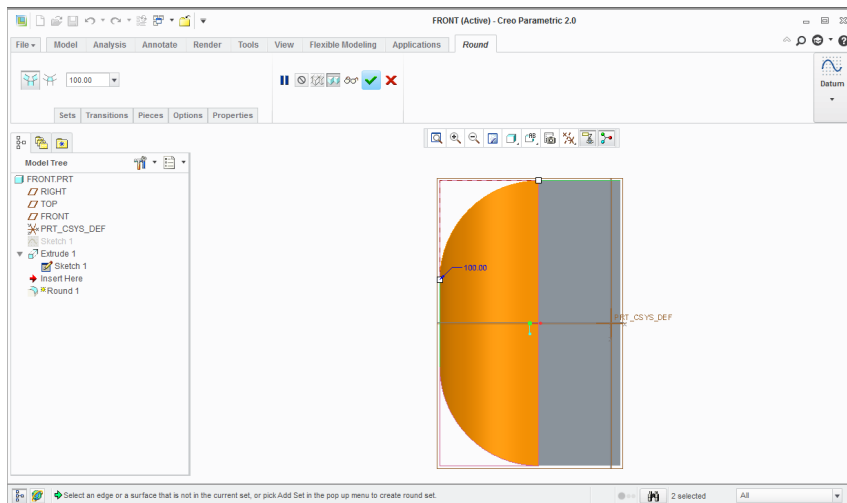

Figure 1.4: Step 5, rounding the nose.
5. Round the part as in figure 1.4.